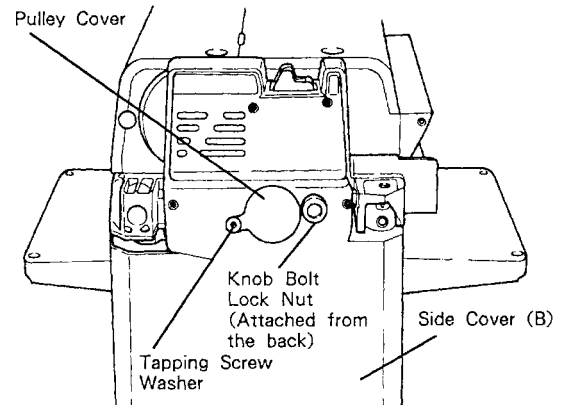

Fig. 23
⚠ CAUTION : When cutting on the Planer section without the Jointer Section, attach the provided Pulley Cover because the Pulley will be exposed on the side of the Side Cover (B) (Fig. 23).